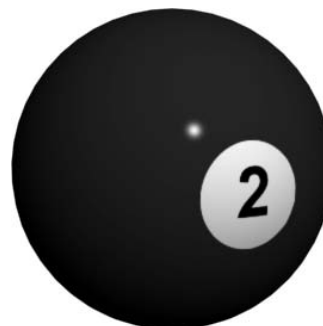

Figure 7.27
- Now render the ball to check the map's appearance. With your Perspective viewport active, click the Quick Render icon (the teapot). Figure 7.27 shows the pool ball with the mapping.
With the image applied, the pool ball looks pretty good at this point (Figure 7.27)—but it’s not perfect. The small nuances are what really make a render look good. One thing this pool ball is missing is a reflection of its environment. Now, short of creating and texturing a pool table and several other pool balls, we need to make a cheat.